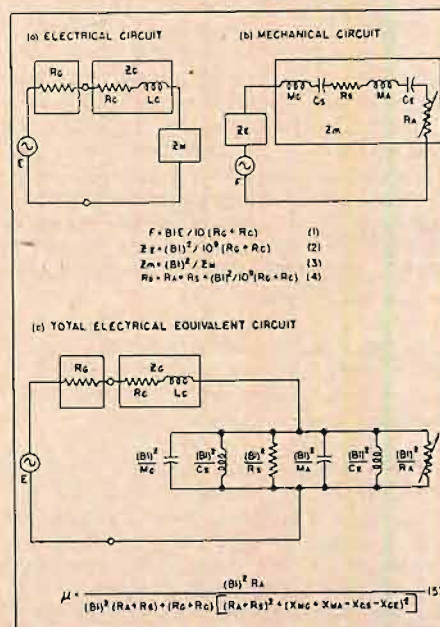
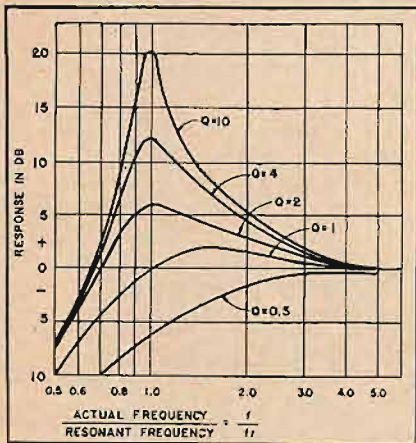
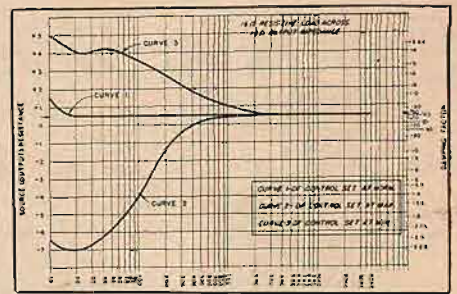

Fig. 1. Electrical and mechanical equivalent circuits of loudspeaker driven by amplifier.
Fig. 2. Relative response of loudspeaker for different values of Q .
Fig. 4. Variation of amplifier source resistance permitted by DF control when using a resistive load.
Let us examine these claims by referring to the equivalent circuit of an enclosed-cabinet single-cone loudspeaker shown in Fig. 1. Constant-voltage generators are shown in the electrical equivalent circuits at (a) and (c), and a constant-force generator in the mechanical equivalent circuit at (b). Equation (4) represents the total resistance R_D acting in series with the reactive components of motional impedance Z_M to produce damping. Any increase in the value of R_D will increase the damping on motion of the speaker cone. Inspection of both Eq. (4) and (b) of Fig. 1 shows that an increase in radiation resistance R_A , mechanical resistance R_S , or gap flux density B will increase the damping. Conversely, a decrease in amplifier source resistance R_G or d.c. voice-coil resistance R_C will increase the damping. Horn loading will increase R_A . R_S is designed into the speaker and inspection of Eq. (5) shows that as R_S is increased the efficiency μ of the speaker decreases. This makes it desirable to have R_S as small as possible in relation to R_A if damping can be obtained from another source. B can be increased by using a larger more expensive magnet than is obtainable in speakers of moderate cost. The winding length l can be increased by using more turns of wire on the voice coil, but since there is only a limited amount of space in the voice-coil gap and resorting to smaller diameter wire will increase R_C , there is an optimum wire size and winding length beyond which little improvement can be gained. R_G can be decreased by decreasing the amplifier source resistance, and as far as damping is concerned, a decrease in R_G is exactly equivalent to increasing the gap flux density B .
Another limit we can observe, if all that interests us is damping of cone or enclosure transients at resonance, is the reduction of the Q of Z_M at resonance. When the Q of a resonant circuit is made equal to 1, the frequency response is flat throughout the range of resonance but there is some transient overshoot. If the Q is made equal to 0.5, the circuit is said to be *critically damped* and there is no transient overshoot but the frequency response begins to droop below the range of resonance. This effect is shown in Fig. 2. The droop below resonance is explained by considering (b) of Fig. 1. The R_A of the speaker diaphragm (or apparent diaphragm at the horn mouth if the speaker is horn loaded) begins to decrease as the square of the wavelength below the critical wavelength (the wavelength that is equal to the circumference of the diaphragm). This effect alone will produce a 12 db/octave droop in sound output below the critical wavelength. The reactance of C_E , the compliance of the air in the enclosure, and C_S , the compliance of the cone suspension, become increasingly large below the fundamental resonant frequency and account for an additional 6 db/octave droop below resonance. (M_C is the mass of the cone and M_A is the mass of the air.) The Q of the resonant circuit can be decreased by increasing the value of either R_A or Z_M . An increase in R_A can be produced by horn loading and will result in a higher critical wavelength. On the other hand, an increase in Z_M will not alter the critical wavelength but will have the same effect on damping as horn loading. So we see that in a speaker system that has its critical wavelength at a higher frequency than its fundamental resonant frequency, the effect of resonance may be used to reinforce the response between these two critical frequencies. By making the Q equal to 1, we will
achieve optimum flatness in the frequency response. The Q of the mechanical equivalent circuit of (b) in Fig. 1 may be expressed as
where X_M represents the total inductive reactance of $(M_A + M_C)$. In the total electrical equivalent circuit of (c) in Fig. 1, the equivalent expression for the Q is
The circuit employs a simple bridge circuit inserted into the common side of the output transformer secondary. A voltage is developed across the 0.47-ohm and the 0.27-ohm resistors that is proportional to the current flowing through the speaker load. This current-proportional voltage is sampled by the slider on the 25-ohm potentiometer and fed back through low-pass filter RC as current feedback to the cathode of the first stage where it is added with the over-all negative voltage feedback. At a certain position of the potentiometer slider, there will be no voltage developed between slider and ground and, therefore, no current feedback. On either side of this position the slider will sample either a positive or a negative current-proportional voltage depending whether the slider is moved toward the 0.47-ohm or the 0.27-ohm resistor, respectively. By this means the effective source resistance of the amplifier may be varied between wide limits in the positive (negative current feedback) as well as the negative (positive current feedback) direction. Figure 4 shows the range of variation plotted for both source resistance and DF . Inasmuch as these curves were taken for the purpose of calibrating the DF control, a 16-ohm resistive load was used across the 16-ohm secondary. With a speaker load, the range of variation will be a function of the R_e and Z_M of the speaker. For a speaker with a rated impedance of 16 ohms, the R_e will be much less than 16 ohms and the Z_M
The type of curves shown in Fig. 4 were found desirable to compensate for both the rise in low-frequency sound output produced with low damping and the roll-off produced with high damping by changing the *apparent* efficiency μ of the speaker system. This can be seen clearly by inspecting Eq. (5) in Fig. 1. If the term $(R_o - R_c)$ increases in value, the efficiency is reduced. Conversely, if $(R_o + R_c)$ decreases, efficiency is increased. However, this change in efficiency is only apparent since it requires that additional power be dissipated in $(R_o + R_c)$ for its accomplishment.